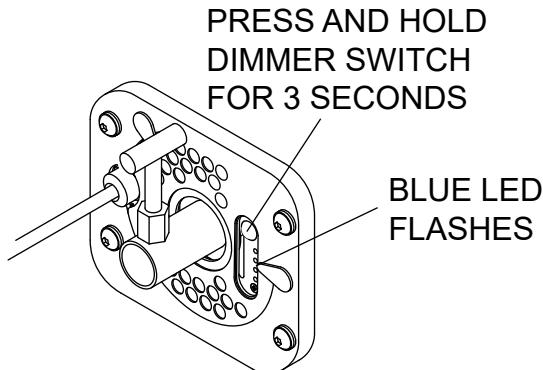

Figure 22. Turning On Silent Mode
1. To eliminate the noise coming from the unit during operation, press and hold the dimmer switch for 3 seconds (Figure 22).